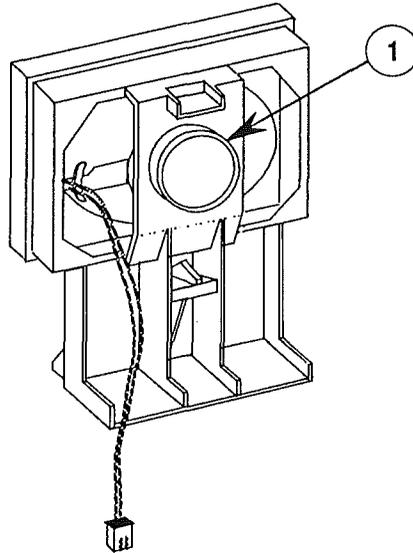

FIGURE 3
4. Gently push the speaker out of the bracket by applying force at the center of the rear of the speaker (Figure 3, #1).